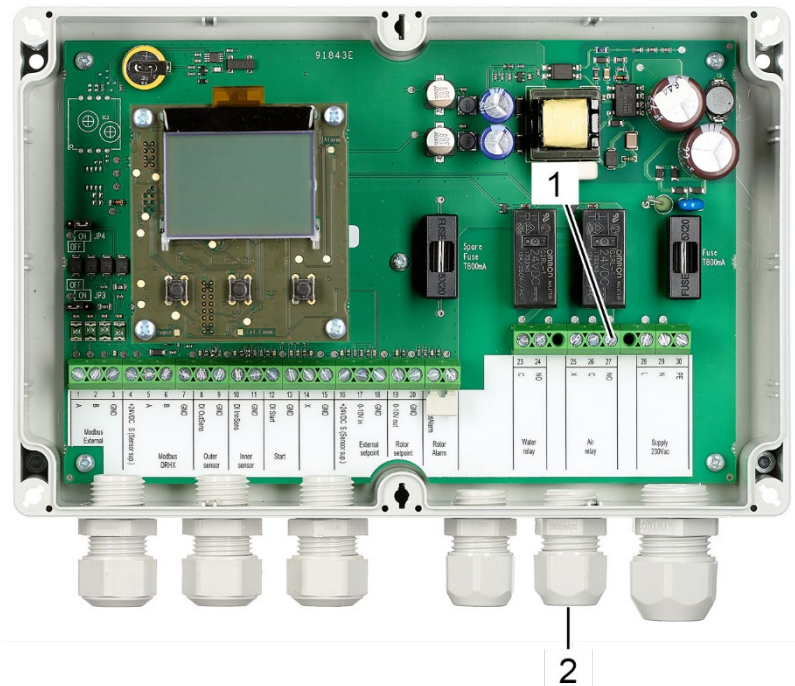

Fig. 91: Terminals compressed air relay
27. Insert the wires of the compressed air relay (power supply wire and neutral wire) through the cable socket (Fig. 91/2).
28. Connect the power supply wire of the compressed air relay to terminal 27 (Fig. 91/1, NO).